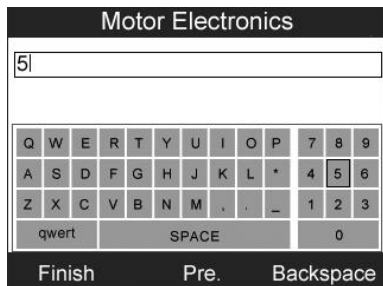

Figure 14.15
**[Show]**: Press this key to pop up a soft keyboard to facilitate your input. (Figure 14.15)